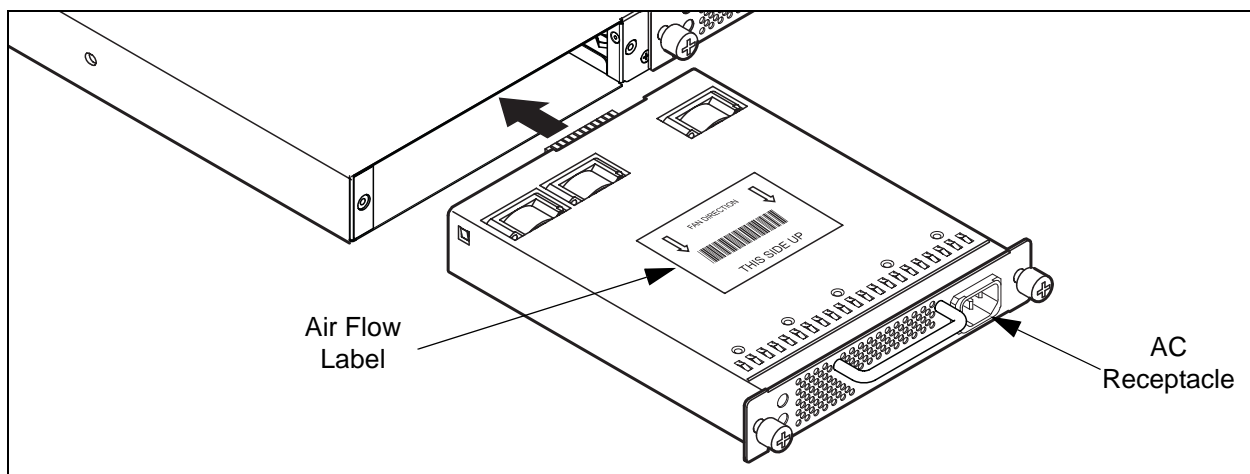

Figure 6-2. Power Supply Installation
2. Confirm that the new power supply is compatible with the switch air flow direction. The part number label on the power supply indicates the air flow direction as shown in Figure 6-2.